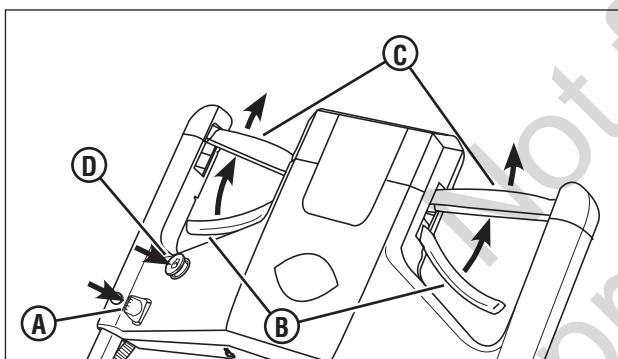

Figure 3: Starting the mower
1. Plug the starter insert (**A**, **Figure 3**) into the connection slot in the control console.